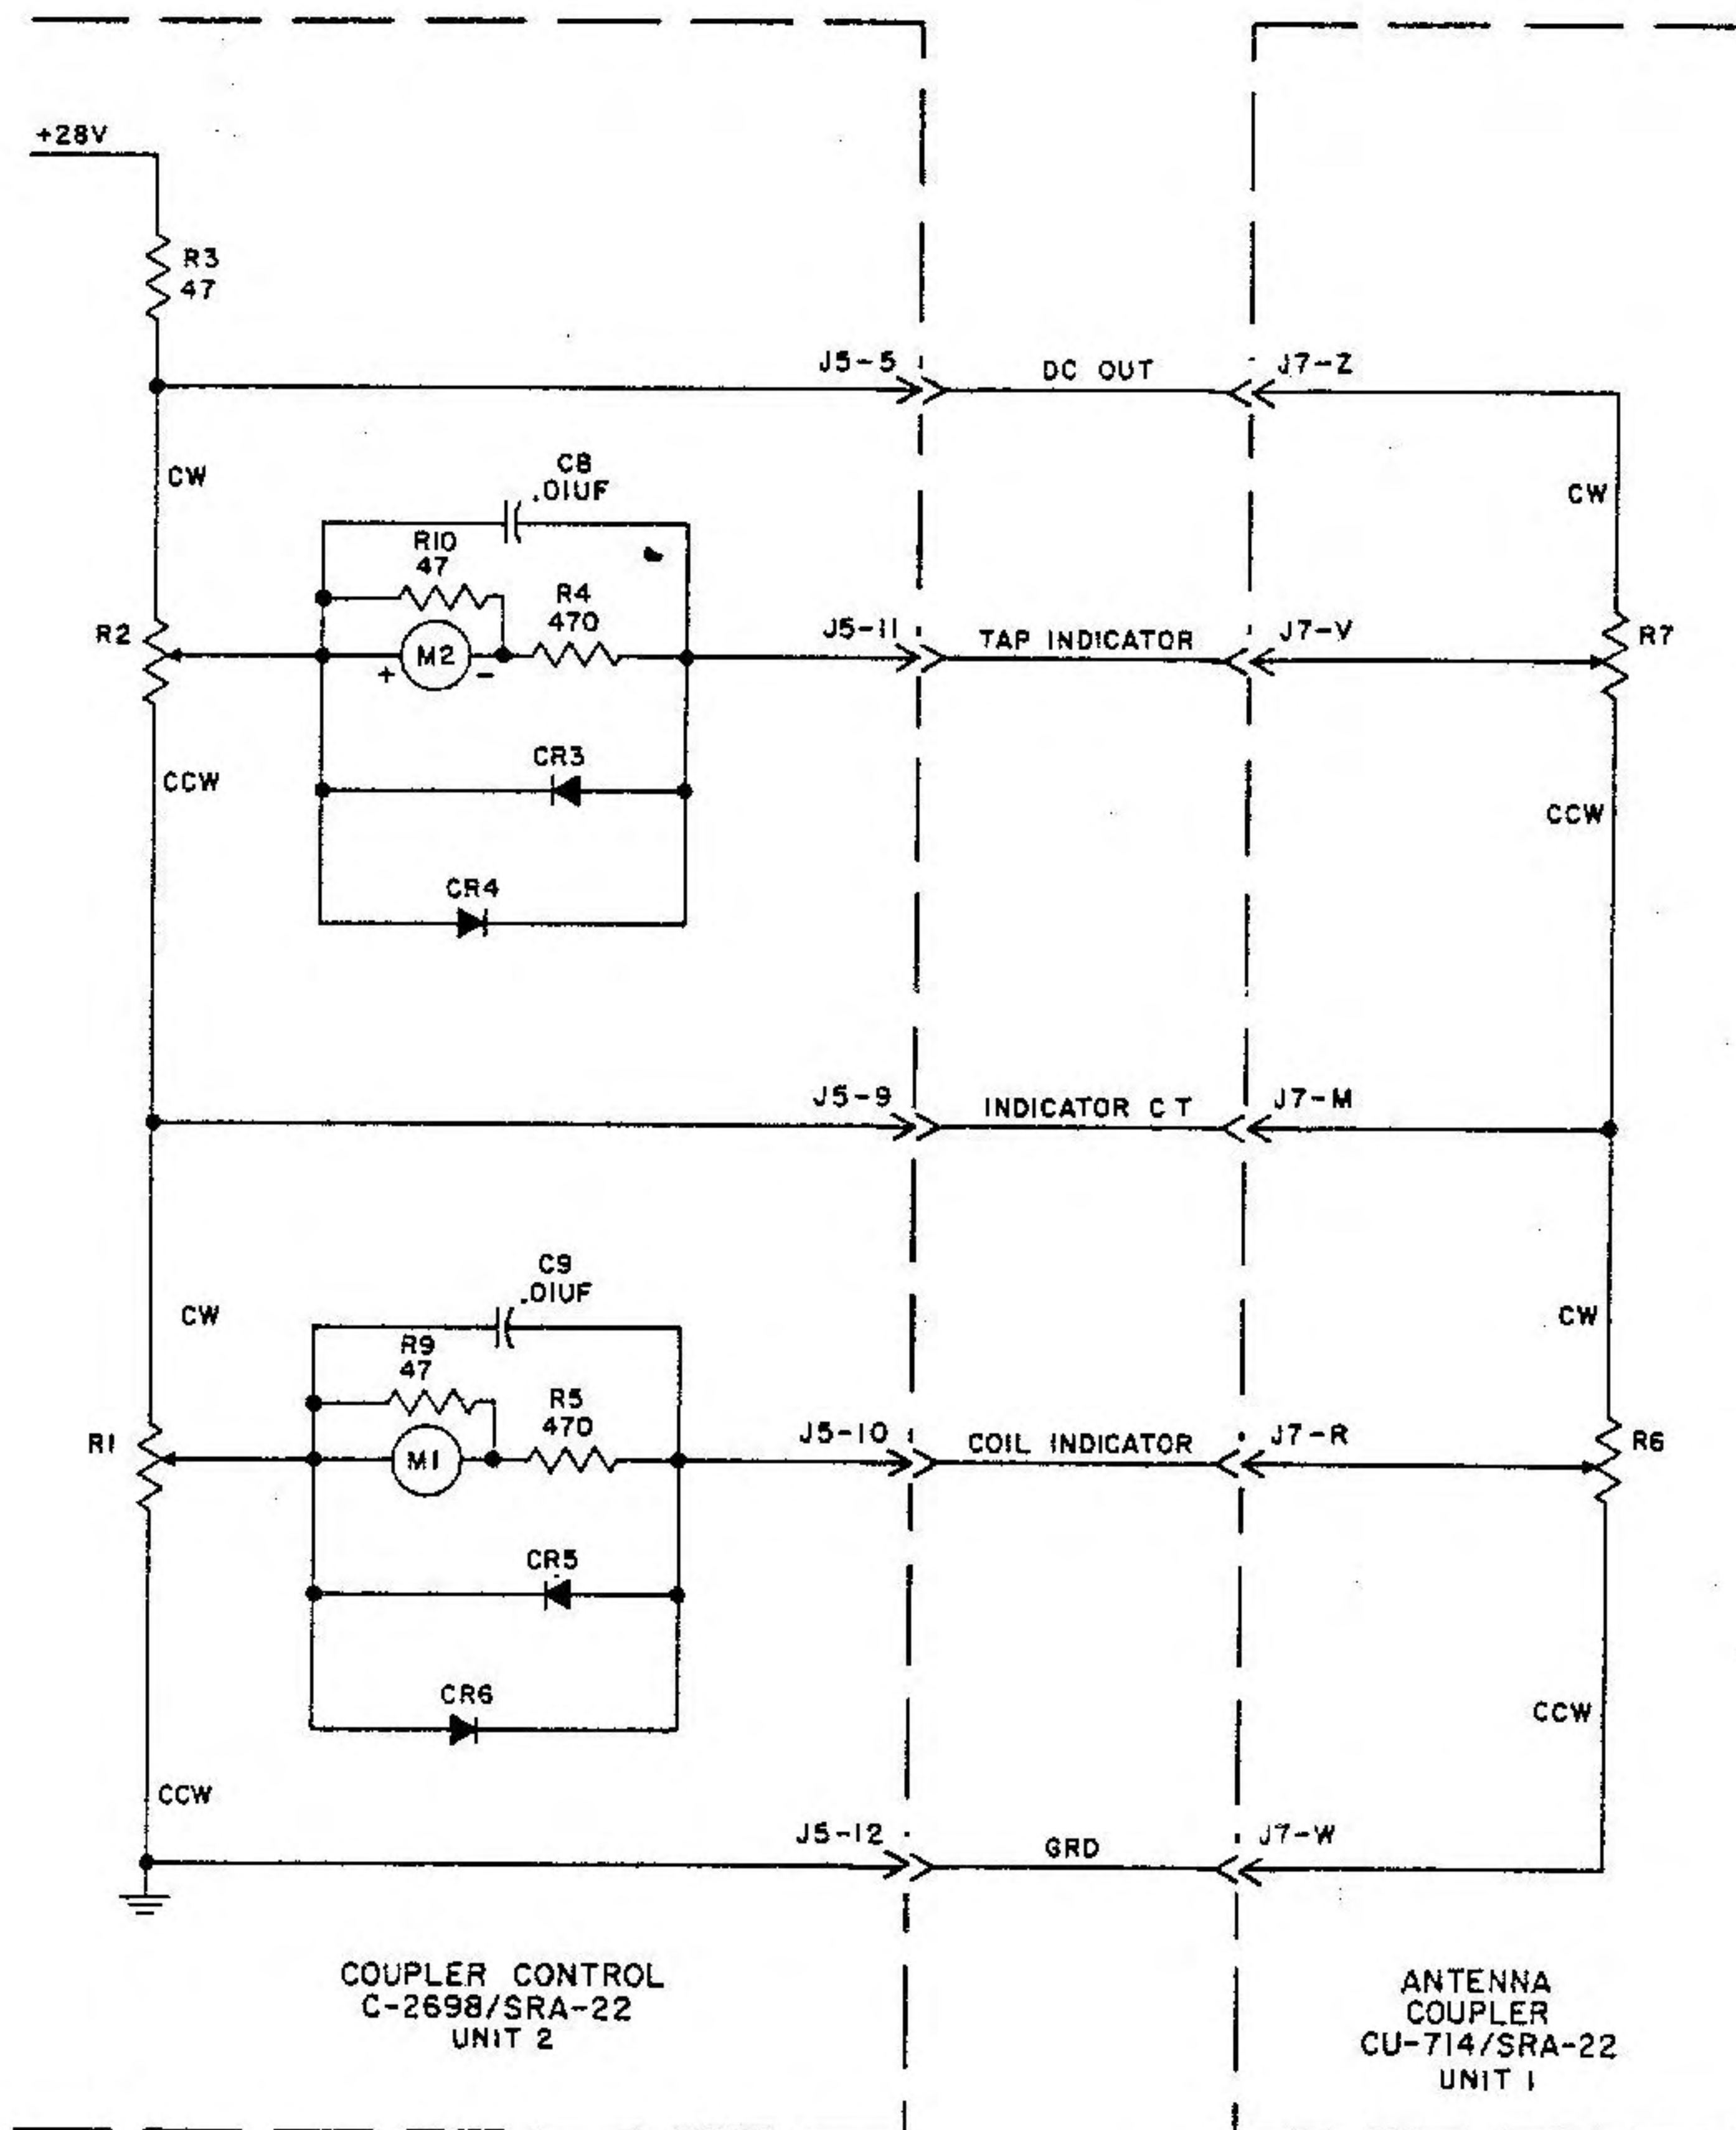

Figure 4-2. TAP and COIL Indicator Meter Circuits, Simplified Schematic Diagram
(1) TAP AND COIL INDICATORS. - Refer to figure 4-2 for the simplified schematic diagram. The position indicators (TAP AND COIL) consist of receiving potentiometers in the coupler control and sending potentiometers in the antenna coupler. The sending potentiometers are connected to individual tap and coil drives by gears so that tap and coil positions are immediately determined. When resistance settings of potentiometers 2R1 and 1R6, or 2R2 and 1R7 are equal, indicator meters 2M1 or 2M2 will read zero. Diodes 2CR3 and 2CR4 on TAP indicator meter, and diodes 2CR5 and 2CR6 on COIL indicator meter are used to prevent excessive overload current from damaging the meters. Resistors 2R4 on TAP indicator meter and 2R5 on COIL indicator meter provide bias for the diodes. Capacitors 2C8 and 2C9 are used for r-f protection for meters 2M1 and 2M2.